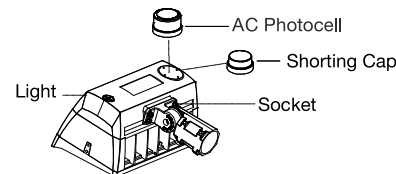

Figure 15
- When the photocell function is required, photocell should be installed on the back of light; When it's not required, shorting cap should be installed on the back of light (FIGURE 15)